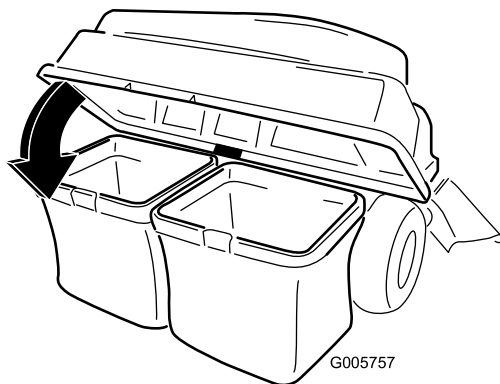

Figure 10
3. Lower the bagger top onto the bag (Figure 10).